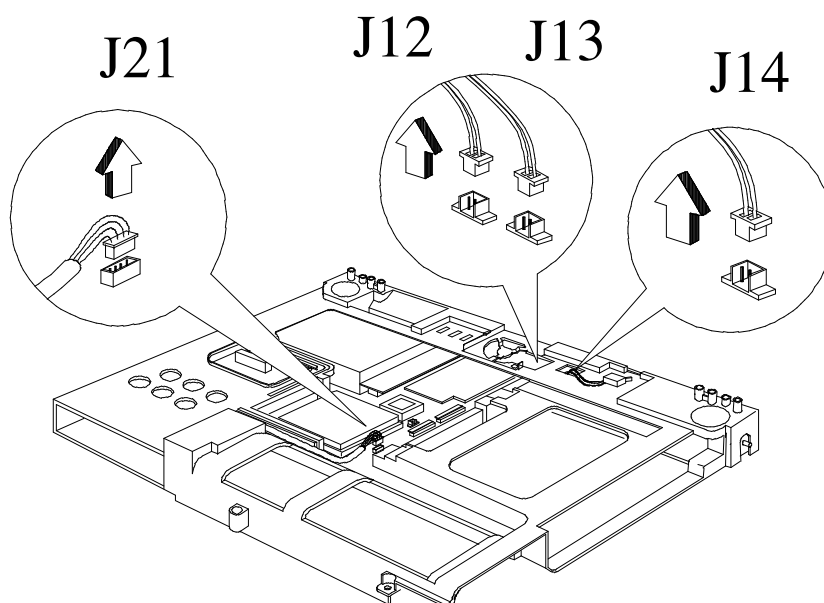

Figure 6-21 Unplugging Cables on 60x Series Motherboard
3. Refer to Figure 6-21 and remove the following connectors: